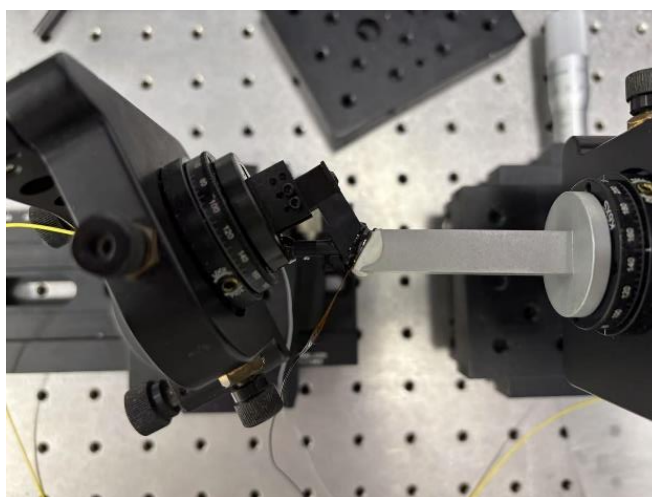

Figure 4.6 Bond the MEMS mirror to the main frame.
Step 43. Lock all the screws of the mounts and stages. Apply a small amount of UV-curable adhesive to the gap between the MEMS package and the attached main frame surface (Figure 4.6), following the protocol described in Step 10.
Step 44. Apply black epoxy adhesive around the gap and allow at least 24 hours curing time for the MEMS-to-main frame bond to stabilize (Figure 4.6).